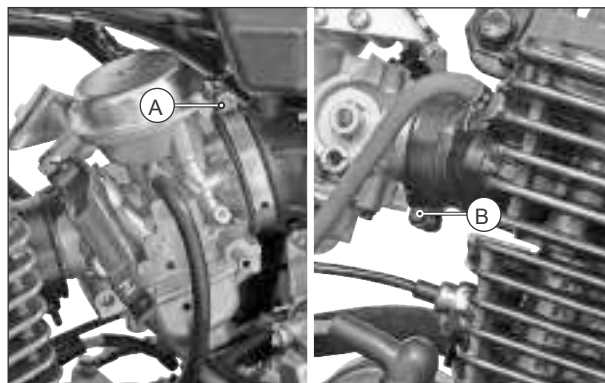

Fig. 3.24
Loosen the hose clip (A) of tube air cleaner outlet and hose clip (B) of pipe intake complete. (Fig. 3.24)